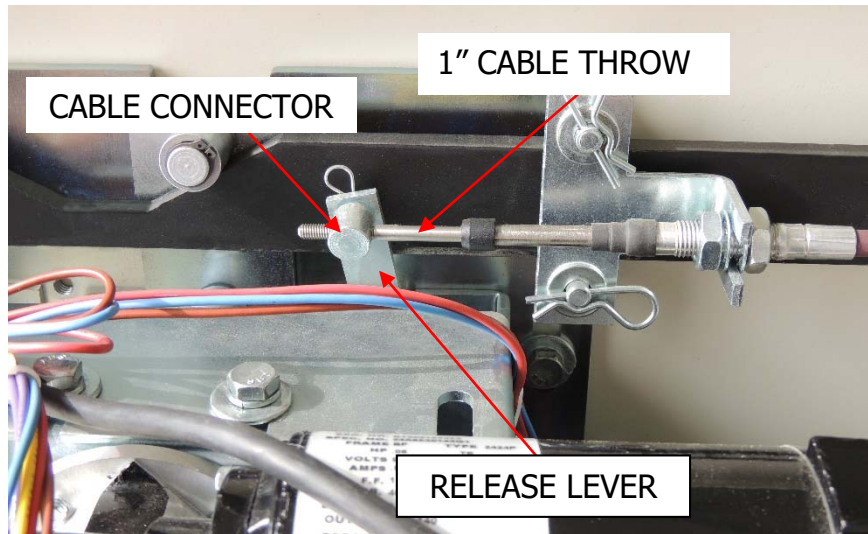

FIGURE 22
20. The other end is attached to a **Cable Connector**, attached to a **Release Lever** on the mechanism assembly with a **Hairpin** (**Hardware Bag #14**) (Figure 22). Make sure that the cable has all the 1" throw adjusted out at the release lever end.